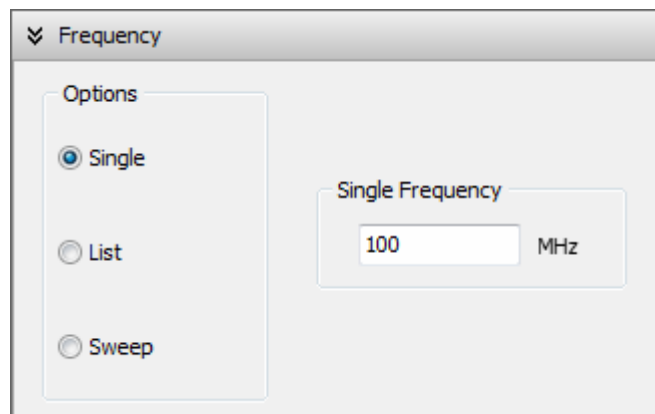
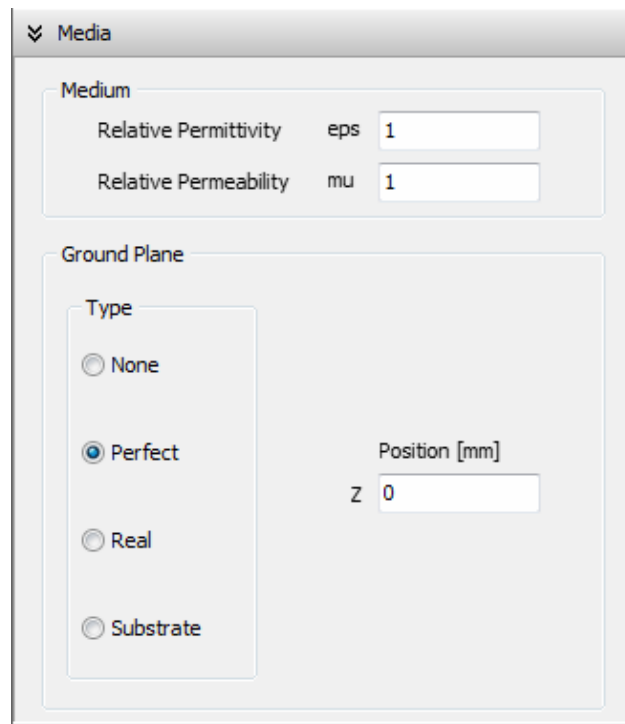

Fig. 14.9: The Frequency panel in the Configure tabsheet.
Fig. 14.10: The Ground Plane option in the Configure tabsheet.
Step 1: Go to Edit/Preferences in the main menu and select MHz and mm as frequency and length units, respectively. Choose Simulate/Configure... in the main menu. In the Frequency panel of the Configure tabsheet select Single and fill the Single Frequency box as shown in Fig. 14.9. Then, choose the Ground page and fill it as shown in Fig 14.10.